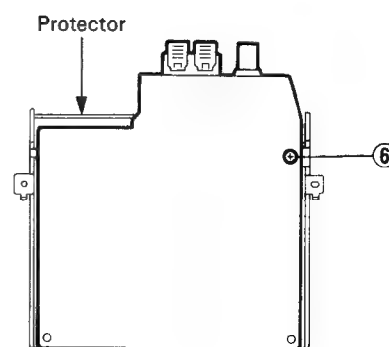

Fig. 7-9
6. From the tuner bracket, remove the one screw ⑥ retaining the tuner P.C. board using the P.C. board assembly as a soldering surface (Refer to Fig. 7-9).